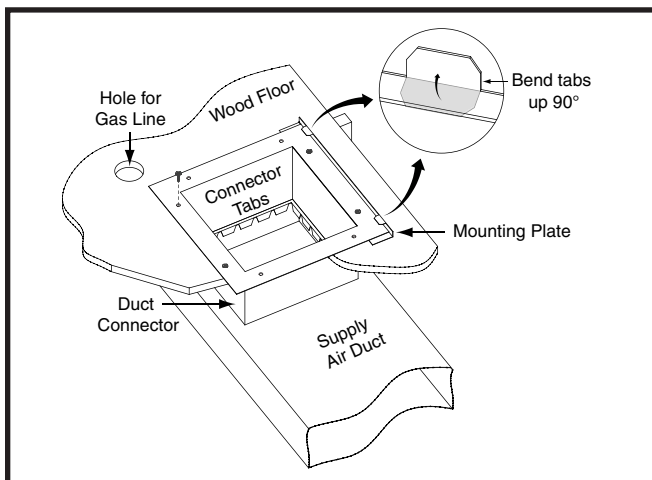

Figure 8. Standard Duct Connector Installed
2. Mark the cut-out area on the supply air duct by tracing around the connector tabs of the duct connector. See Figure 8 \(page 8\).
5. Install the optional mounting plate under the back side of the duct connector as shown in Figure 8. Align the screw holes in both components.